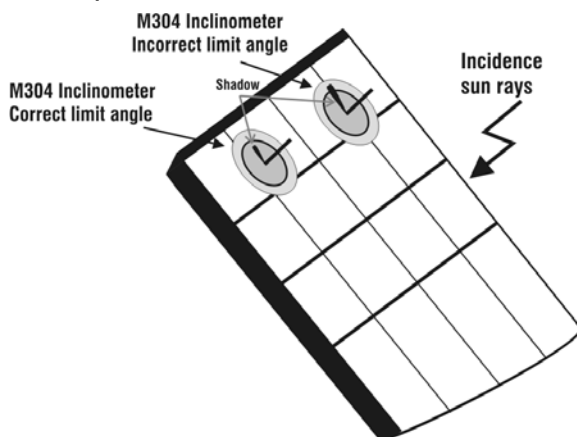

Fig. 10b: Positioning inclinometer M304
11. Mount the M304 (inclinometer) supplied accessory, position and hold it on the plane of module. **Verify that the sun shadow falls on the disc within the "limit internal circle" on the disc itself (Fig.10b).** If this is not the case the incidence angle between sun rays and the module surface is too high and not complying with the test conditions declared by the module manufacturer. As a consequence the measurements performed by the meter are not ok and all measurements steps shall be repeated at another daytime.